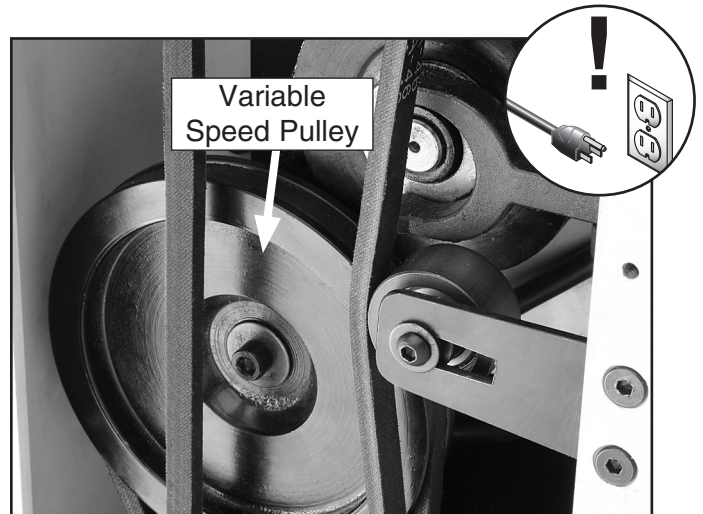

Figure 36. Variable speed pulley.
Note: If you plan on replacing the variable speed belt, loosen the cap screw securing the variable speed pulley (**Figure 36**) before loosening the motor mount cap screws.
6. To replace the variable speed belt, remove the cap screw securing the pulley shown in **Figure 36**, then remove the outer half of the pulley.